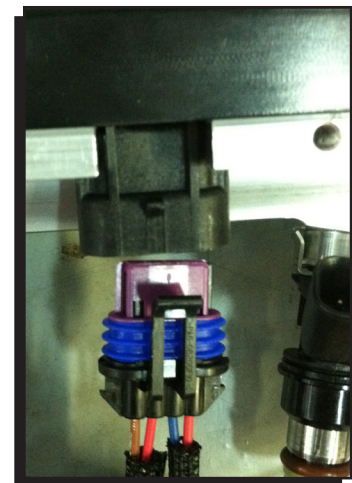

Figure 3
5. Plug the fuel injector pigtails into the fuel rail connections (Figure 3).